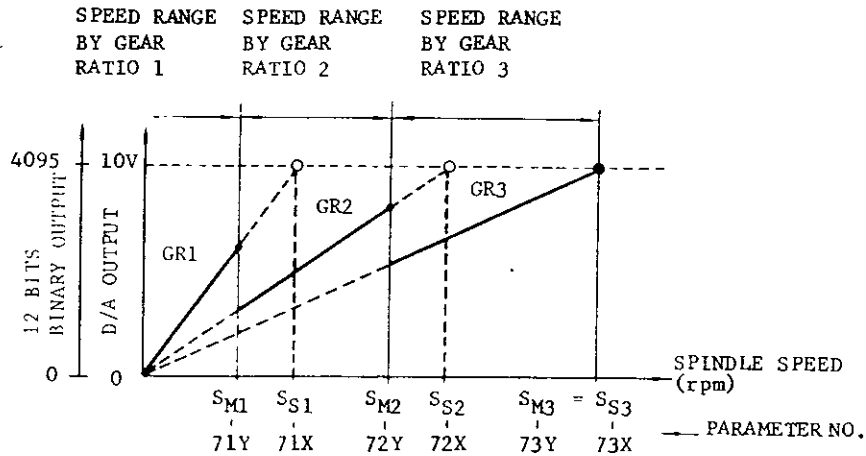

Fig. 1.6
Fig. 1.6 shows the relation between S command output and spindle-speed ranges selected by gear ratio.
- By the contents of parameter in Fig. 1.6, the control judges that GR2 must be changed to GR3 and gives output GR03.